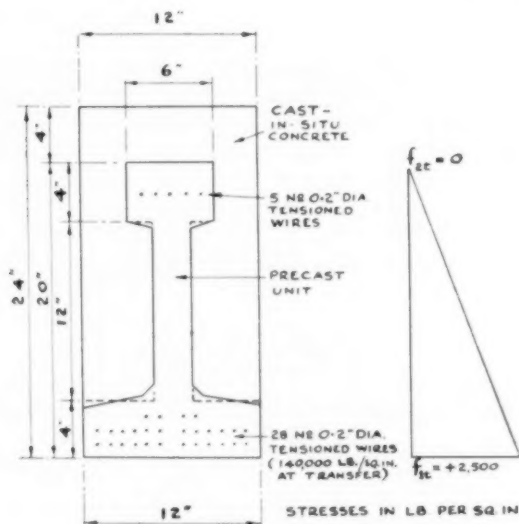

Fig. 4.
the section may be as in Fig. 4. The accurate section moduli are  $Z_1 = 579 \text{ in.}^3$  and  $Z_2 = 395 \text{ in.}^3$ . The area  $A$  is 102 in.2 and the centroid is 8.11 in. from the bottom, so that  $e_s = 8.11 - 1.75 = 6.36 \text{ in.}$  and  $e'_s = 20.0 - 8.11 - 2.0 = 9.89 \text{ in.}$  From formulæ (7), suitable values of the prestress when the concrete is put into compression are  $f_{1t} = 2500 \text{ lb. per square inch}$  and  $f_{2t} = 0$ . From formulæ (3), and (4),  $P_t$  is 145,000 lb., which is provided by thirty-three 0.2-in. wires,  $\bar{e}_s = 3.87 \text{ in.}$ , and  $N' = 5.06$ . Therefore there should be five wires at the top and twenty-eight at the bottom as in Fig. 4.